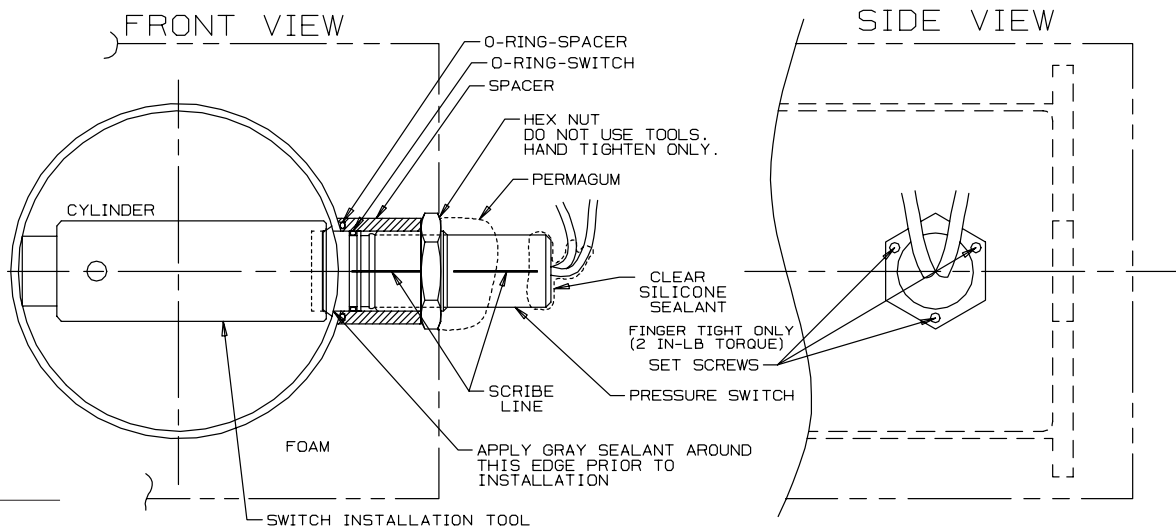

Figure 11-3
5. Apply a thin film of grey RTV silastic sealant around O-ring on switch and a 1/8 in. bead around the head of pressure switch. (See figure 11-3.)
11. While waiting, seal the wires where they exit the switch. Squeeze out a liberal amount of the clear silicone sealant and allow it to flow over the rear of the switch (See Fig 11-3.) The sealant should cover the entire black cap, 3/4 in. of the exposed wires and 1/4 in of the metal housing. Place a paper towel under the switch to catch the excess sealer which runs off. After a skin forms on the sealant—about 15 minutes—apply a full second coat.